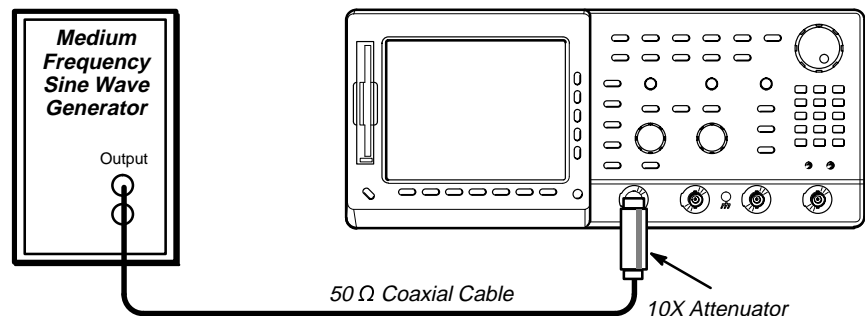

Figure 1-14: Initial Test Hookup
- c. *Hook up the test-signal source:* Connect, through a 50 Ω precision coaxial cable, followed by a 10X attenuator, the output of a medium-frequency leveled sine wave generator (Item 10) to CH 1. See Figure 1-14.